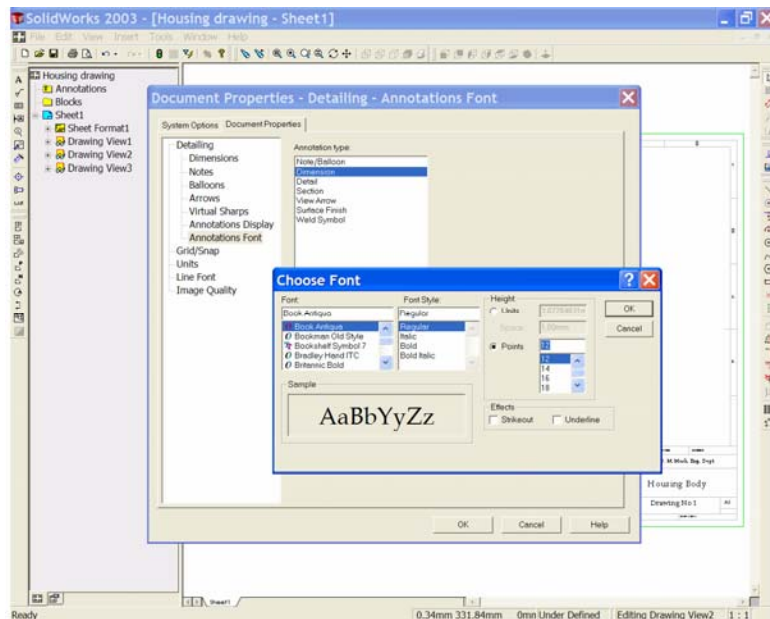

Figure 40
35. Choose 'Annotations Font' under 'Detailing' and from the annotations type window select 'Dimension'. From the dialog box select 'Book Antigua' and set the Height to 12 points. Select OK to close the box. See Figure 40.